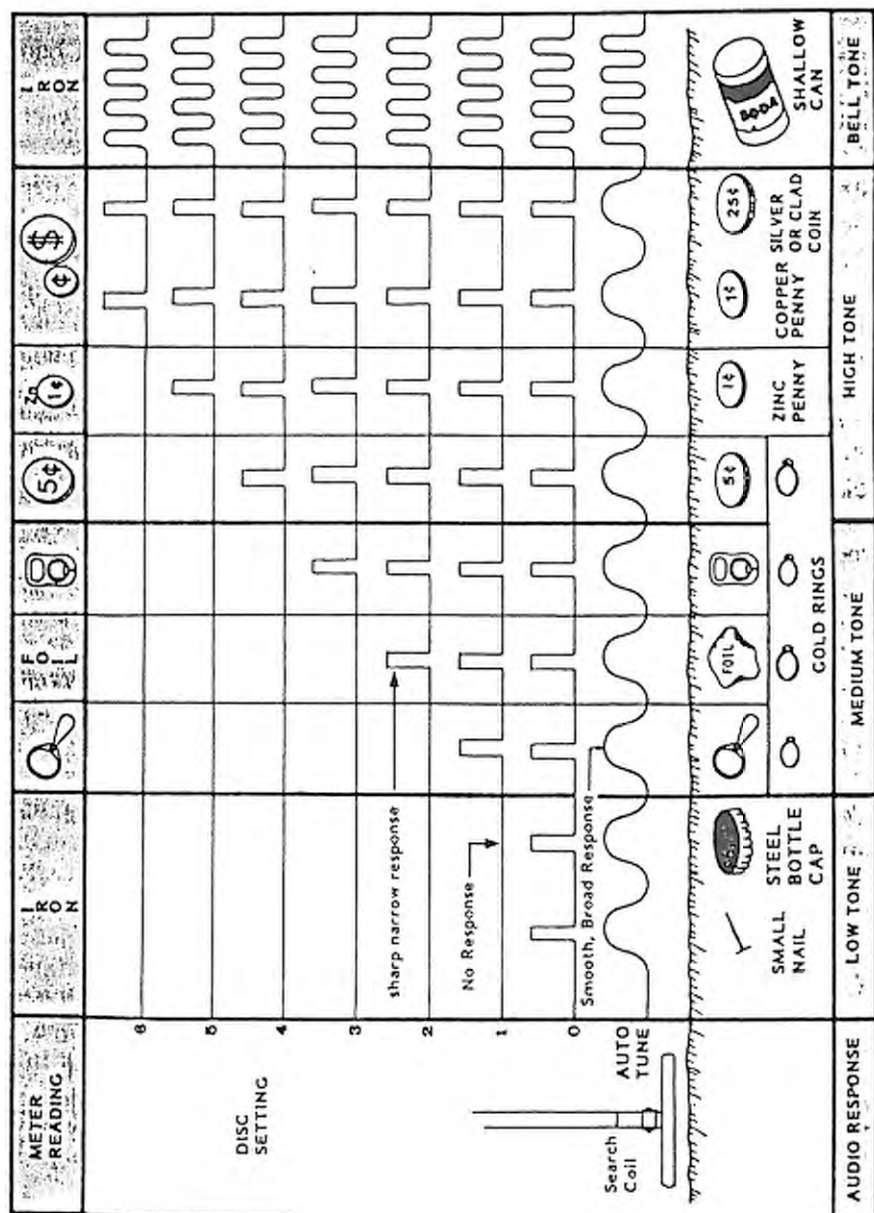

Figure 4. Typical CZ-6 audio and meter responses.
15. Figure 4 shows some of the responses you may expect over different targets and at different levels of discrimination. Note that as you progressively increase the discrimination level you eliminate more and more targets.